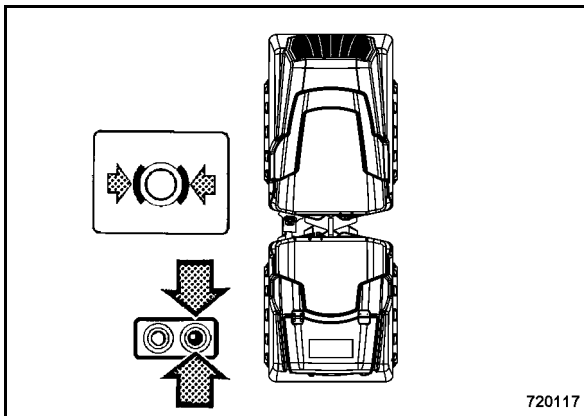

Fig. 41
- Travel lever (Fig. 41) in middle position. The machine will brake.